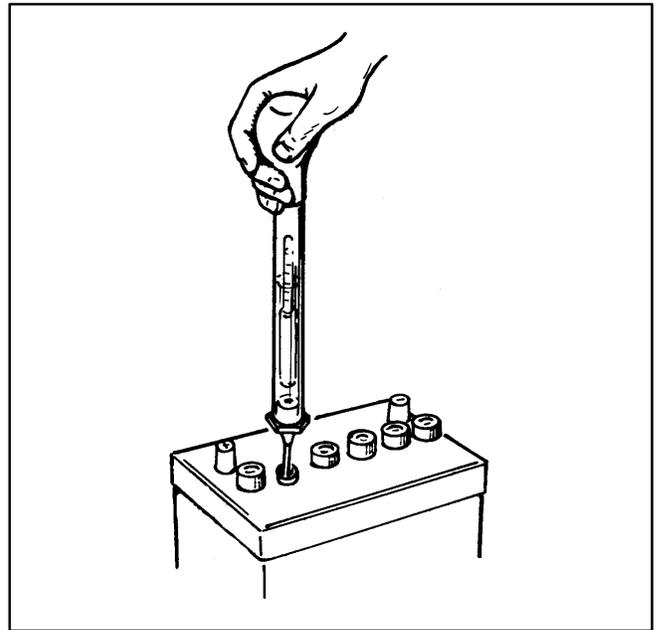

FIGURE 14. BATTERY CHECK WITH HYDROMETER
5. Check the specific gravity of each cell with a battery hydrometer (Figure 14). Charge the battery if specific gravity is less than 1.215. Do not overcharge. Normal specific gravity is 1.260 at 80° F (27° C).